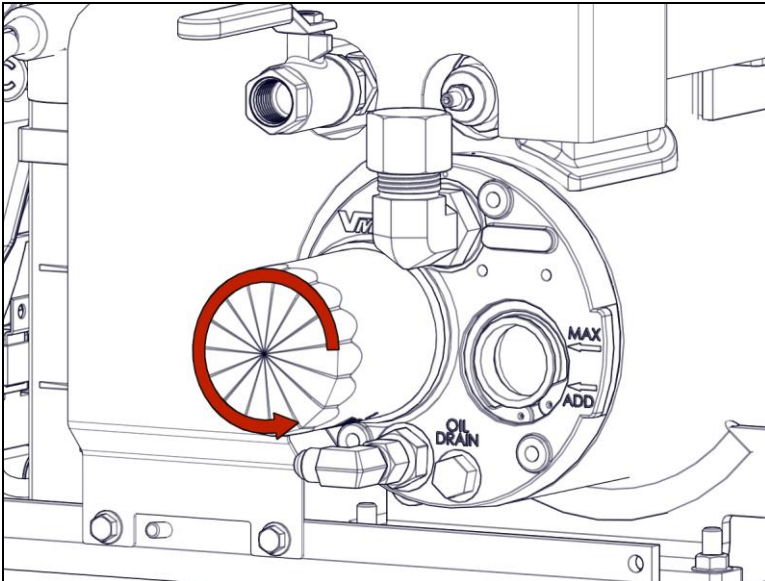

Figure 42 – Compressor oil filter
- 2) Remove the filter by turning it counterclockwise. Before discarding the filter, ensure that the threaded nipple did not unscrew with the filter. If the nipple is in the filter, remove it carefully to avoid thread damage and replace it in the tank (Figure 42, 43).